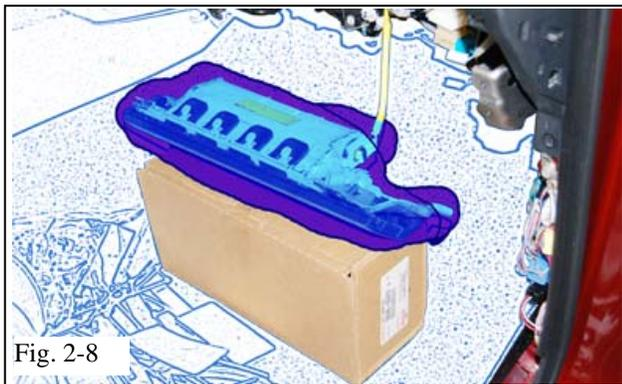

Fig. 2-6
- (h) Remove the Passenger's Side Knee Airbag Brace Trim. (Fig. 2-6)